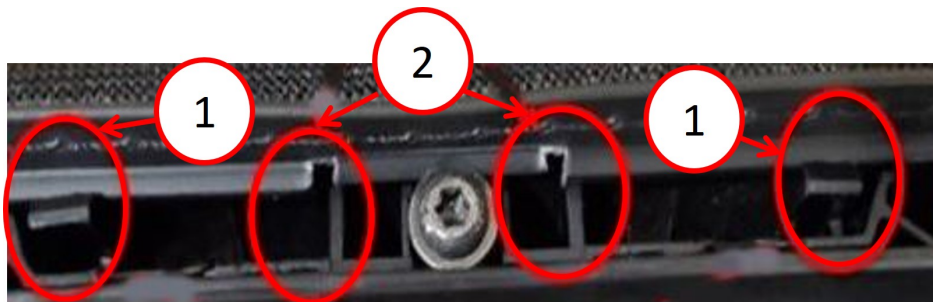

Fig. 2
1. Open the dual-pane sunroof and verify if the sunroof wind deflector fabric net is separating from the top frame, showing disengaged tabs and misaligned notches (Fig. 2) .
- 2. Is the dual-pane sunroof wind deflector fabric net separating from the frame (Fig. 2) ?